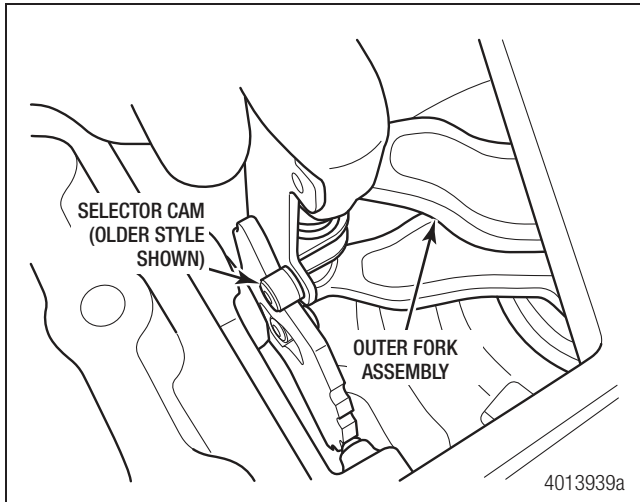

Figure 7.15
7. Install the outer fork assembly in the housing, making sure the selector cam is positioned correctly on the detent on the shift plate. Figure 7.15.